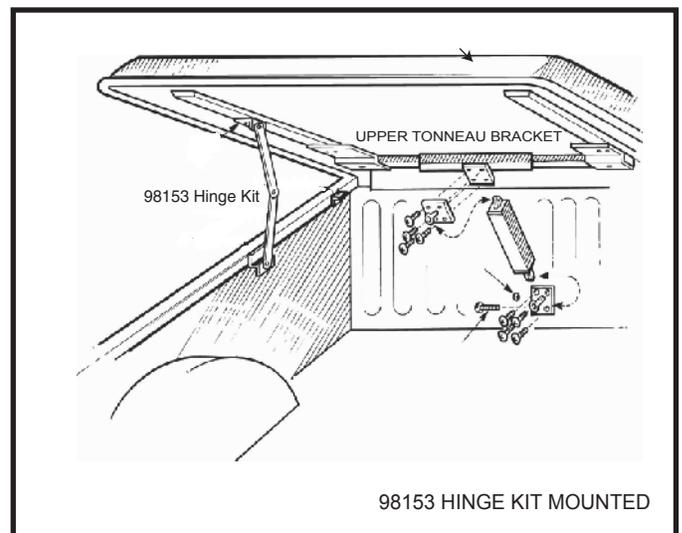

fig. 6
3. This next step will require an extra pair of hands to help mount the upper tonneau bracket. The bracket is actually made up of three separate tubes with plates mounted on the ends of 2 of the tubes and a plate mounted in the center of the third tube. See fig. 6. Slide the 2 tubes with the end plates into the tube with the center plate, so that the end plates are facing upward and the center plate is facing down (**inserting the side tubes into the center tube will require some extra effort as the fit is very tight**). Bolt the actuator attaching bracket to the center plate using 4 stainless steel nuts and bolts provided in the kit. Temporarily attach the bracket to the actuator with one of the double hole pins. Now raise the bracket up until it comes into contact with the tonneau cover. Slide the end tubes in or out until they are centered over the tonneau side supports. Some tonneau cover manufacturers do not use a framework support system, in which case extend the tubes to within 4" of the inner edge of the tonneau cover. Mark 4 holes on each side of the cover using the plates as templates. Now mix-up a batch of epoxy (**we suggest JB Weld slow-dry**) and roughen up the mating surfaces on both of the mounting plates and on the mounting surface of the tonneau cover (**for best results sand down the mounting plates to bare-metal**). Spread the epoxy over the plates and attach the plates using 8 self-tapping sheet metal screws provided in the kit. Then remove one screw at a time and inject epoxy into the screw hole and reinsert the screw. Follow this procedure for each mounting screw. **NOTE: YOU MUST USE EPOXY ON TONNEAU COVERS THAT DO NOT USE A FRAMEWORK SUPPORT SYSTEM. YOU MUST ALLOW 24 HOURS FOR THE EPOXY TO FULLY CURE BEFORE ATTEMPTING TO OPERATE THE TONNEAU COVER.** Once the tonneau support bar is firmly in place, locate 2 small holes at each end of the center tube. Run 2 self tapping sheet metal screws into the holes, this will secure the tubes and prevent any rattles. Store the tonneau lock hardware in a plastic bag, again we suggest keeping the bag inside of the tailgate, in case you ever want to go back to manual operation. **WARNING!!! DO NOT UNDER ANY CIRCUMSTANCE CLOSE THE TAILGATE UNTIL THE COMPLETE SYSTEM IS CONNECTED AND FULLY OPERATIONAL.**